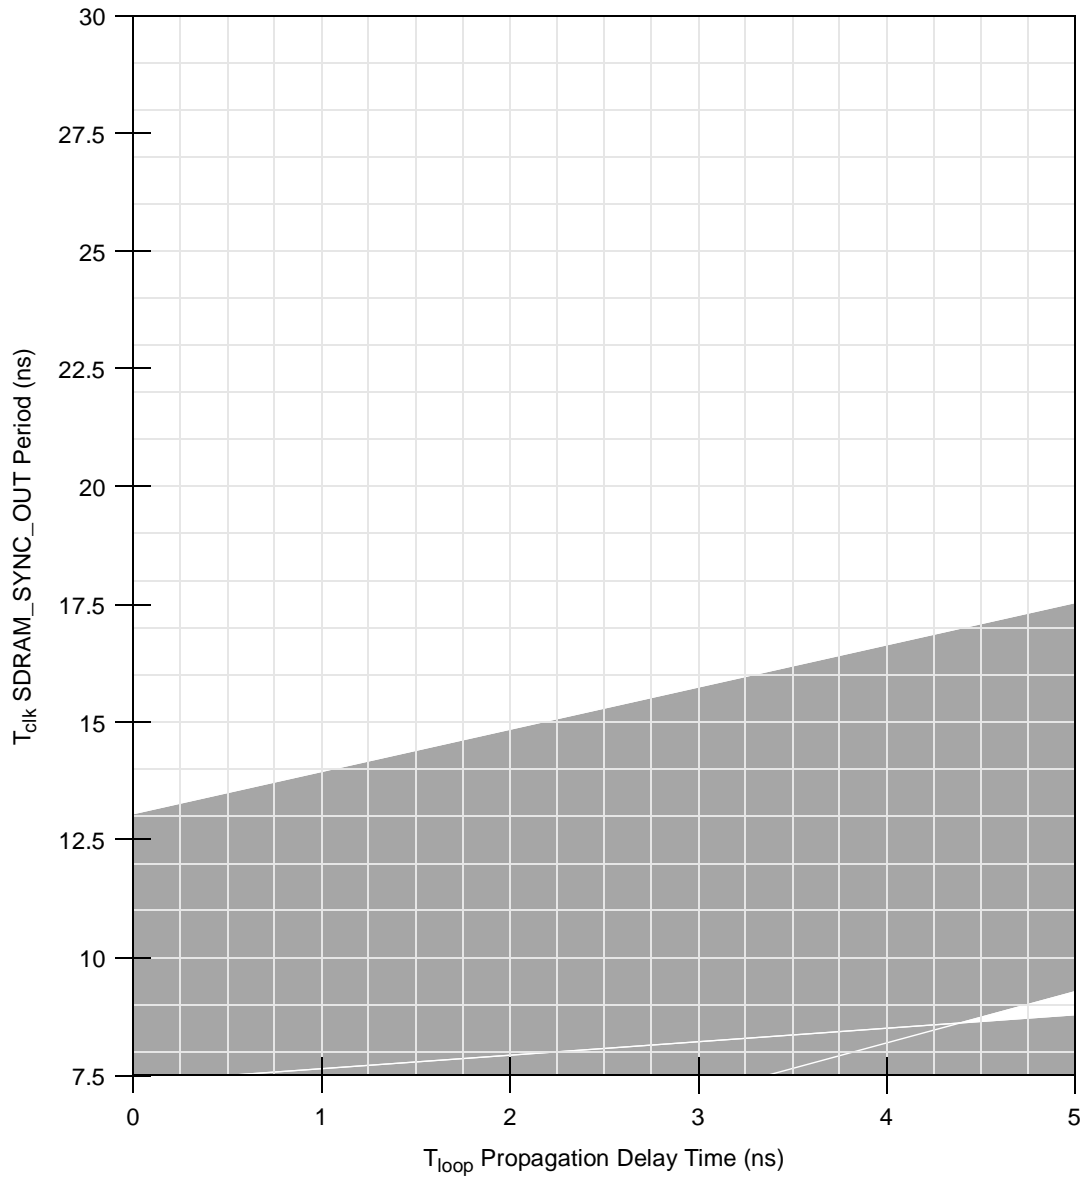

Figure 7. DLL Locking Range Loop Delay Versus Frequency of Operation for DLL\_Extend=0 and Normal Tap Delay
- DLL\_EXTEND is bit 7 of the PMC2 register <72>.  $N$  is a non-zero integer (see Figure 7 through Figure 10).  $T_{clk}$  is the period of one SDRAM\_SYNC\_OUT clock cycle in ns.  $T_{loop}$  is the propagation delay of the DLL synchronization feedback loop (PC board runner) from SDRAM\_SYNC\_OUT to SDRAM\_SYNC\_IN in ns; 6.25 inches of loop length (unloaded PC board runner) corresponds to approximately 1 ns of delay. For details about how Figure 7 through Figure 10 may be used refer to the Freescale application note AN2164, *MPC8245/MPC8241 Memory Clock Design Guidelines*, for details on MPC8245 memory clock design.
Figure 7 through Figure 10 show the DLL locking range loop delay vs. frequency of operation. These graphs define the areas of DLL locking for various modes. The gray areas show where the DLL locks.